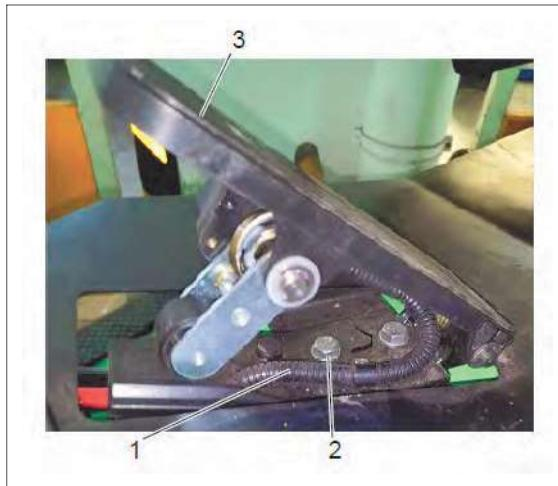

Figure 10-3 Accelerator Pedal
3. Disconnect the accelerator pedal wiring (1, Figure 10-3) from the main wiring harness.
4. Remove the two bolts (2) and remove the accelerator pedal from the chassis.